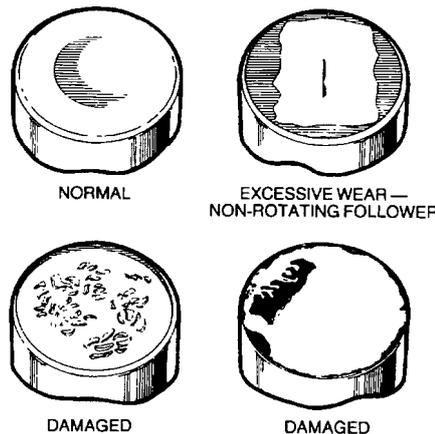

Figure 26 Camshaft Follower Wear Patterns
- b. Inspect the camshaft followers for cracks pitting or irregular wear and replace them as necessary (Figure 26).